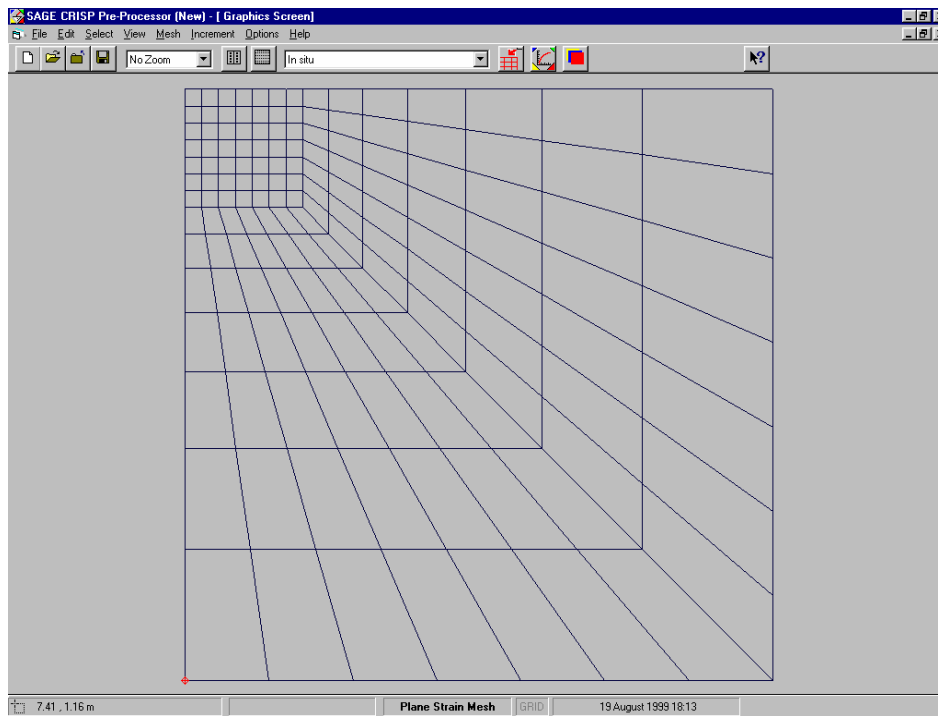

Figure 4-35: Refined Finite Element Mesh Created Using The Structured Mesh Generator
- Try using different edge grading values to create a mesh that has smaller elements around the base of the footing and larger elements further away. The mesh shown in Figure 4-35 will give better results than the mesh used in the example- see if you can duplicate this mesh: